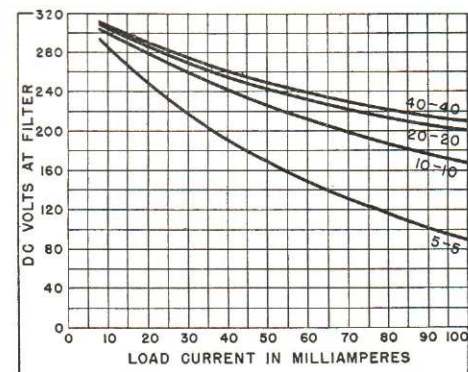

FIG. 11. The regulation of a voltage doubler is like that of the universal power supply.
► Fig. 11 shows the regulation characteristics of a full-wave voltage doubler in which condensers C_1 and C_2 are of equal value. Curves are shown for values of 5, 10, 20 and 40 microfarads for each condenser.